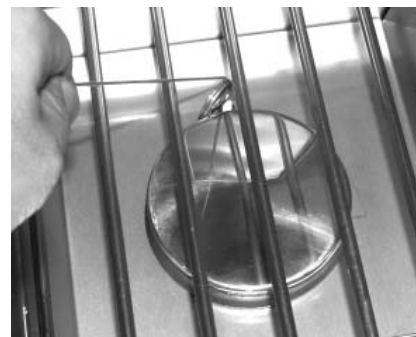

Fig. 13-2 - Manual lighting
2. Insert either a burning long-barrel butane lighter, a burning long-stem match, or a burning match held by a wire extension holder through the cooking grid opening to the burner (Fig. 13-2). Hold the flame against the edge of the burner.
4. If the burner does not light, **immediately depress the knob and turn the valve to OFF. WAIT FIVE (5) MINUTES** before repeating steps 2 through 4 of the **MANUAL LIGHTING** instructions.